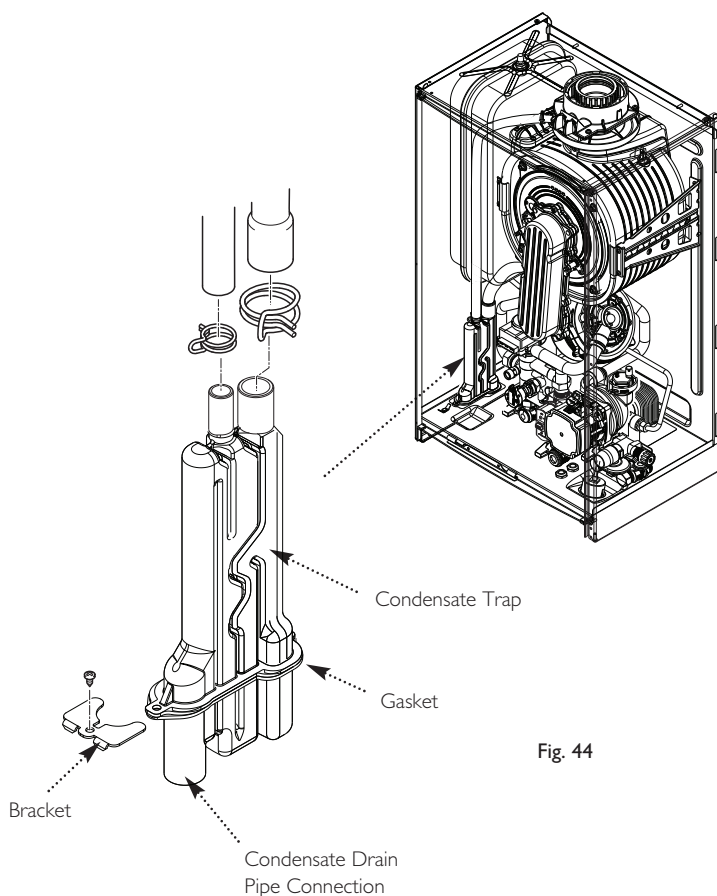

Fig. 44
3. Disconnect the two pipes from the top of the condensate trap and the drain pipe from the condensate drain pipe connection. Undo the screw securing the bracket and trap to the boiler lower panel (Fig. 44).